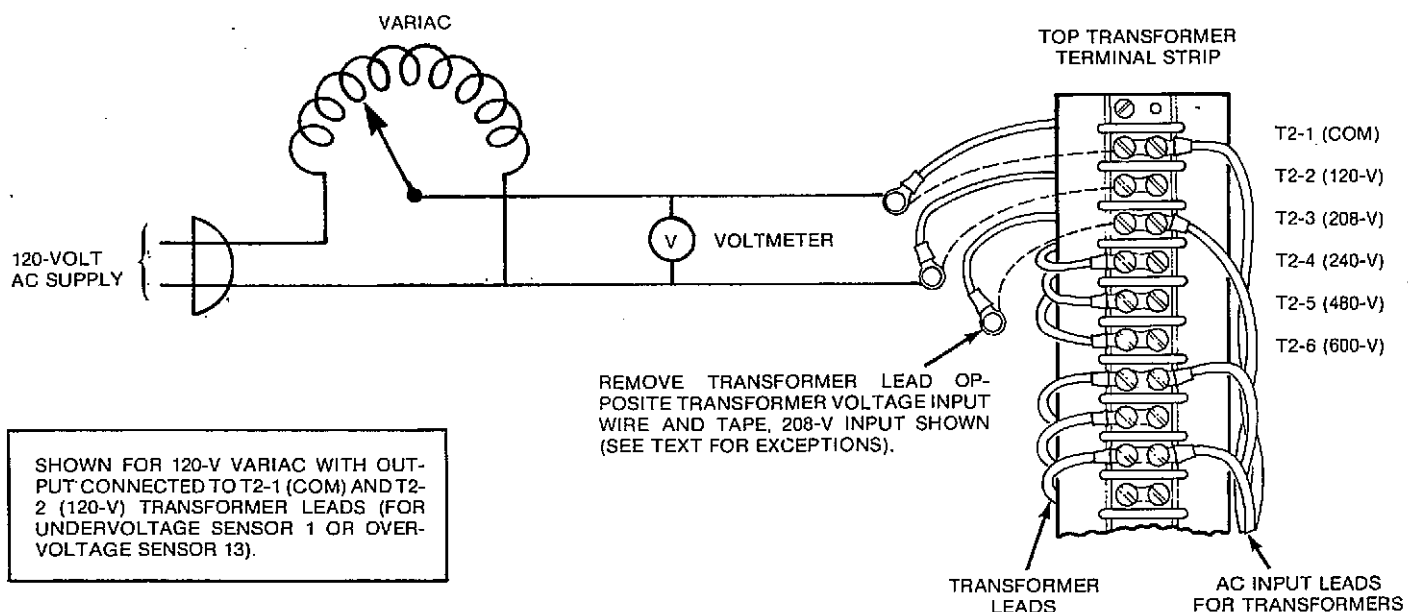

FIGURE 14. CONNECTION OF VARIAC TO STEPDOWN TRANSFORMER
11. Remove the transformer leads from T2-1 (COM) and T2-2 (120-V) from left side of the terminal strip and connect them to the output leads of a 120-volt variac (240-volt variac would require removal of transformer leads from T2-1 and T2-4 and connecting variac to these leads, etc.). See Figure 14. (Use instructions with Onan Multi-Tester if used.)
transformer lead and tape it. Figure 14 shows an example of this.
strip and connect them to the output leads of a 120-volt variac (240-volt variac would require removal of transformer leads from T2-1 and T2-4 and connecting variac to these leads, etc.). See Figure 14. (Use instructions with Onan Multi-Tester if used.)
11. Note right side of terminal strip to see which terminal of T2-2 through T2-6 has an AC input lead (for example, a wire connected to T2-3 indicates 208 volts AC input). On the left side of the terminal strip, remove the corresponding transformer lead and tape it. Figure 14 shows an example of this.